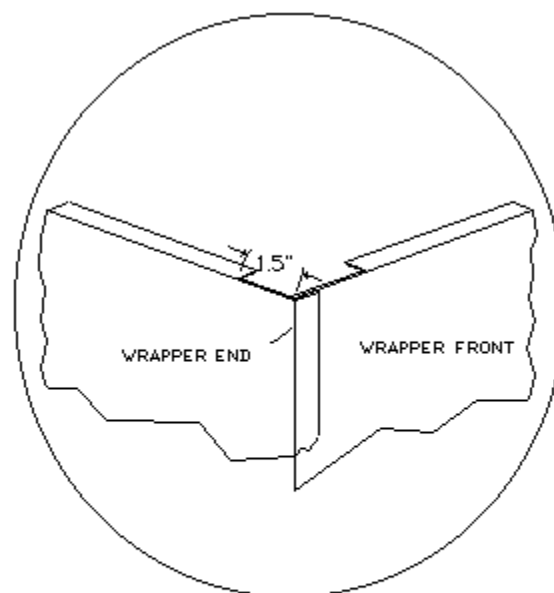
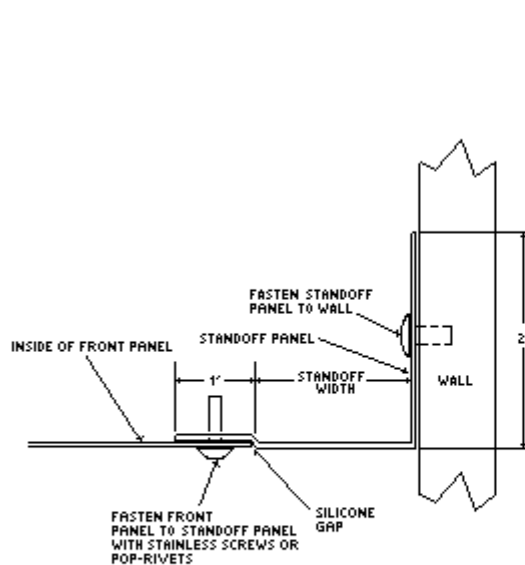

FIG. 4 CORNER DETAIL
FIG. 8 STANDOFF PANEL
5. Locate front wrapper panel. Position its' lower 3/8" flange under C-channel of hood and slide panel into position so that the end of front panel is behind the 90 degree bend of side panel. (Fig. 4) Once into place, press fit the lower flange of the front panel into C-channel in order to have wrapper face flush with front of hood. Screw or pop-rivet bottom of front panel to the C-channel.
3. Locate front panel of wrapper assembly. Slip its' lower 3/8" flange under factory C-channel. Slide panel end behind the 90 degree bend of side panel. (Fig. 4) Once in position, make sure wrapper face and hood face are flush. Screw or rivet front panel to C-channel and standoff panel (Fig. 8)